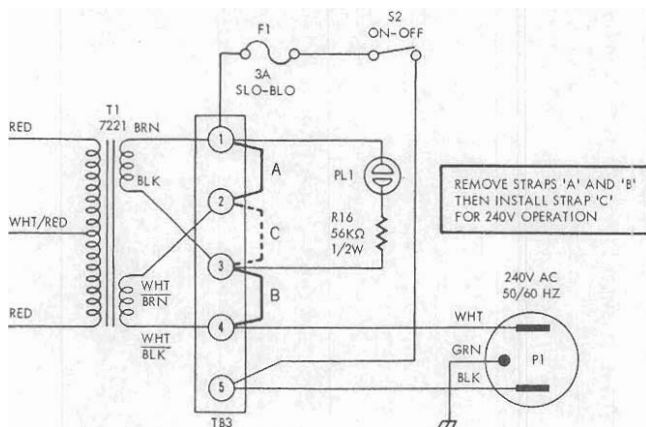

Figure 7. Converting to 240V ac, 50/60 Hz Operation
- Step 3. Remove strap "A" connecting terminals 1 and 2 and remove strap "B" connecting terminals 3 and 4; solder strap "C" to terminals 2 and 3 (see Figure 7).